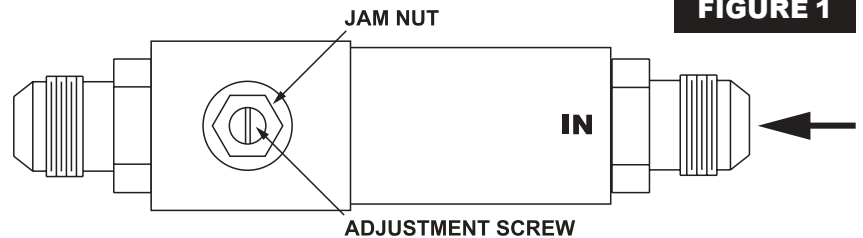

FIGURE 1
3. Fuel pressure is adjusted by loosening the jam nut and turning the adjustment screw. The adjustment range is approximately 3-12 PSI. Exact range depends on the size of the fuel pump and return line (see Figure 1).